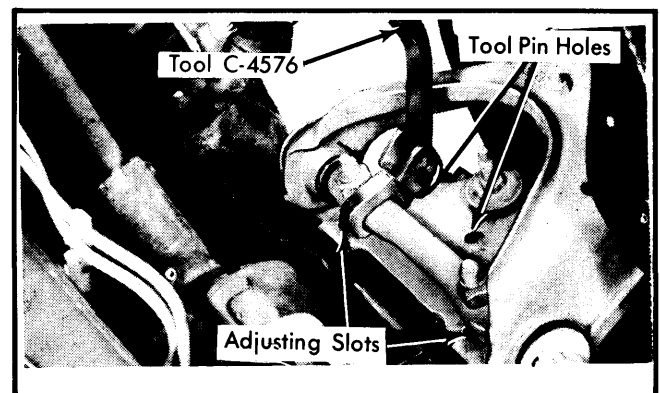

Fig. 4 Slotted Type Caster & Camber Adjustment
1) Check caster and camber setting and compare to specifications. If adjustment is required, clean and slightly loosen the caster/camber pivot bar nuts so that upper control arm may be repositioned in slots. See Fig. 4.